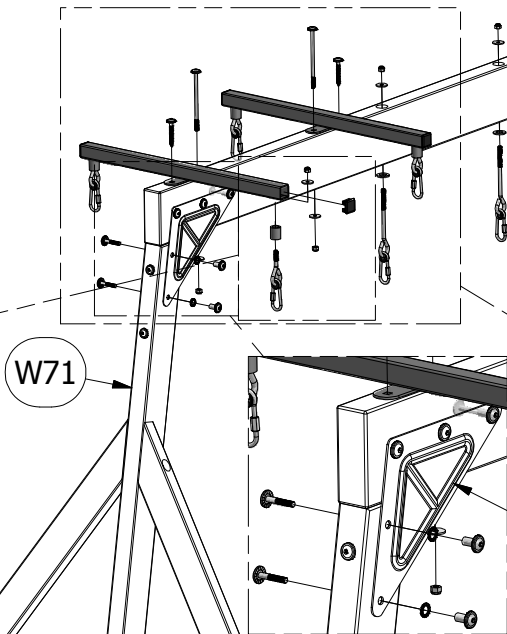

FIG. 1
(4) EY - TUBING CAP GLIDER SUPPORT - A100067
ATTACH (2) QZ TRIANGLE PLATES TO W71 SWING BEAM SUPPORT USING (2) 1-3/4" BOLTS, LOCK WASHERS AND 7/8" BARREL NUTS (FIG.1).